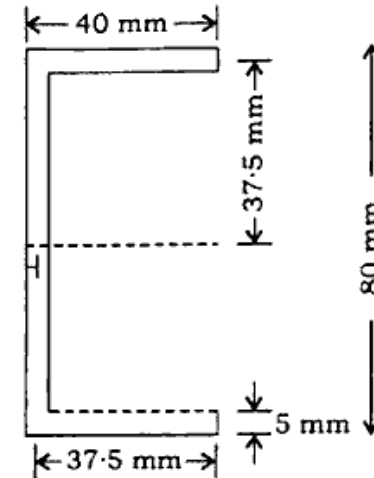

Fig. 1
- (b) Determine the position of the shear centre for an 80 mm by 40 mm outside by 5 mm thick channel section, as shown in Fig. 1 :